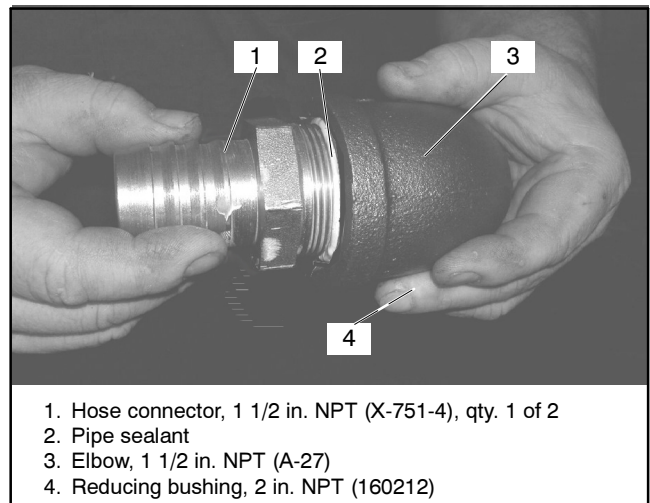

Figure 16 Elbow A-27 and Hose Connector X-751-4 Subassembly
2.2.3 Apply pipe sealant to threads on other end of 1 1/2 in. NPT street elbow A-27. Attach 1 1/2 in. NPT hose connector X-751-4 to 1 1/2 in. NPT street elbow A-27 and tighten securely. See Figure 16.